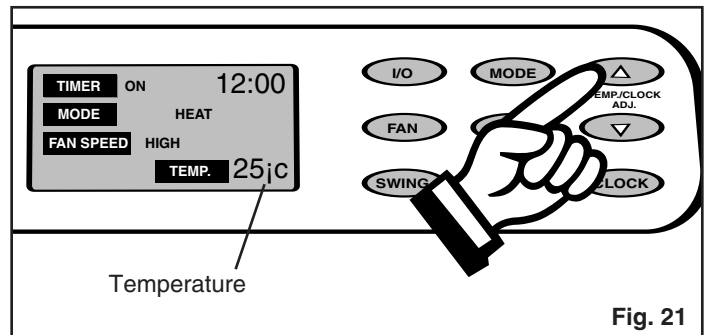

Fig. 21
- 2) Press the appropriate  $\Delta$  or  $\nabla$  key to select a suitable temperature between 17°C (63°F) to 30°C (88°F). *Fig. 21*.